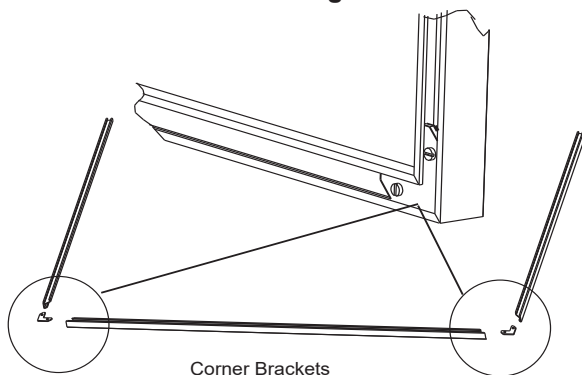

Figure 21.1
3. Assemble trim as shown in Figure 21.1.